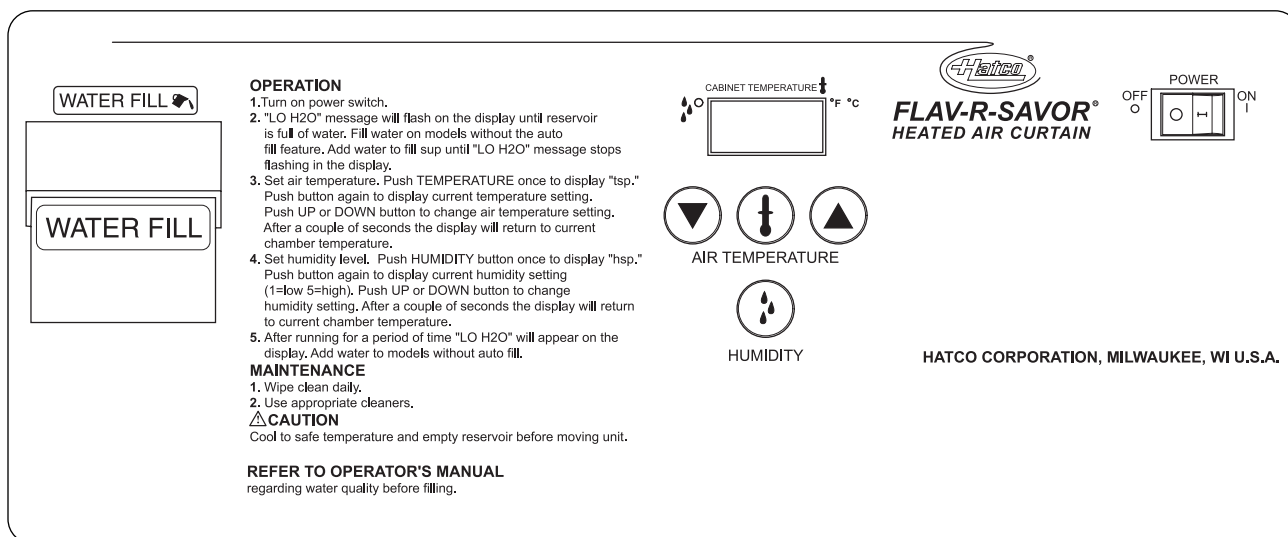

Figure 11. FSHACH Control Panel
2. Turn the Power Switch on the control panel to the ON position. The Power Switch and the Digital Display will light up at this time. (See Figure 11.)